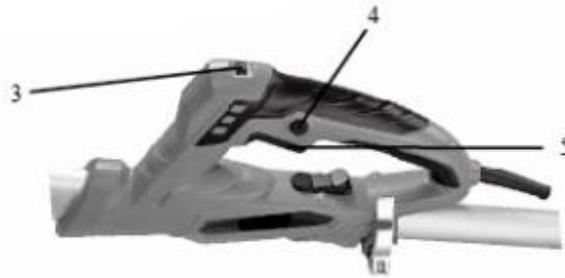

Fig 6
10. Switch and Governor (Fig.6)